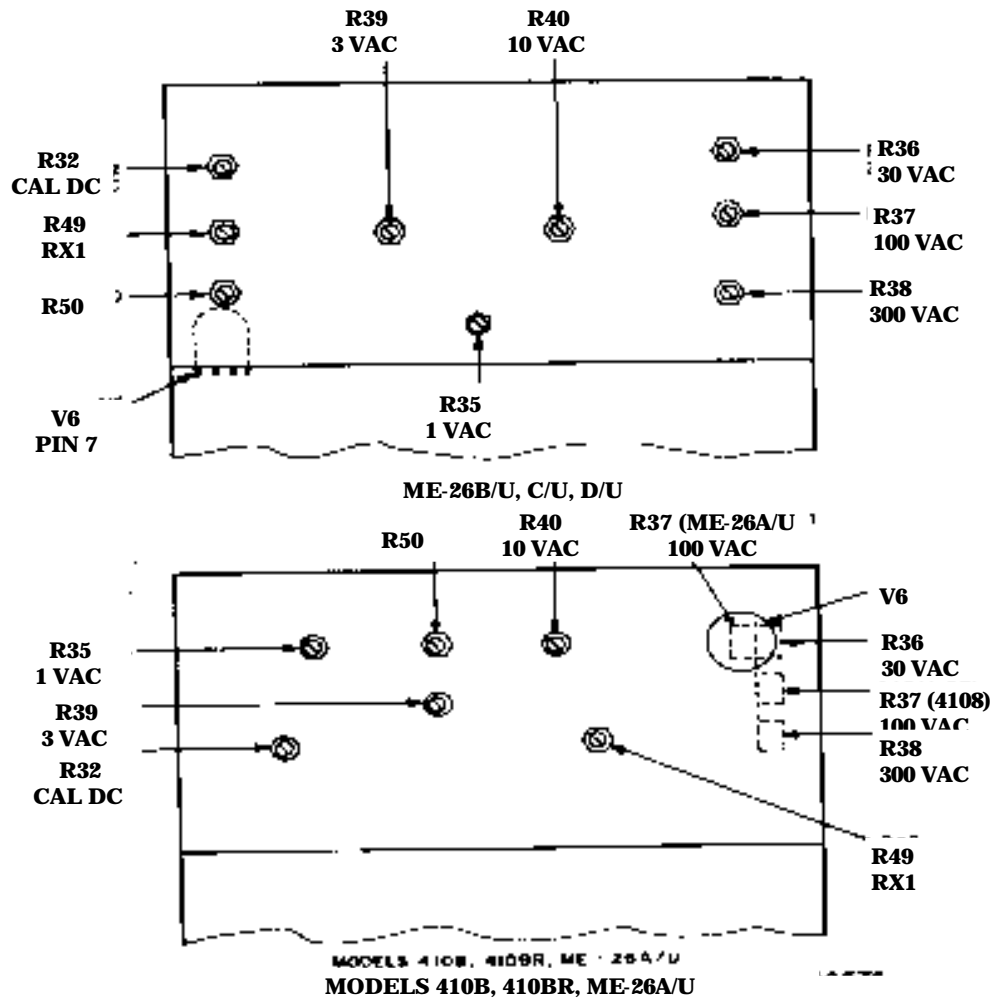

Figure 1. Adjustment locations - rear view.
(1) Set calibrator to 1.000 V.
(2) Adjust R32 CAL DC (fig. 1) for indication of 1 V (R).
(1) Connect digital multimeter between pin 7 of V6 (fig. 1) and ground. If digital multimeter does not indicate between 4.9 and 5.1 V ac (for ac probe diode 2-01C) or 6.2 and 6.4 V ac (for ac probe diode EA53), adjust R50 (fig. 1) for 5 V ac or 6.3 V ac as applicable (R).
(2) Set calibrator to 1.000 V.
(3) Adjust R35 1 VAC (fig. 1) for indication of 1 V (R).
- (1) Remove **OHMS** lead from resistance standard and set **RANGE** switch to **RX10 3V**. Adjust **OHM ADJ** for ¥ meter indication.
- (2) Set **RANGE** switch to **RX1 1V**. Adjust **R49 RX1** (fig. 1) for ¥ meter indication (R).